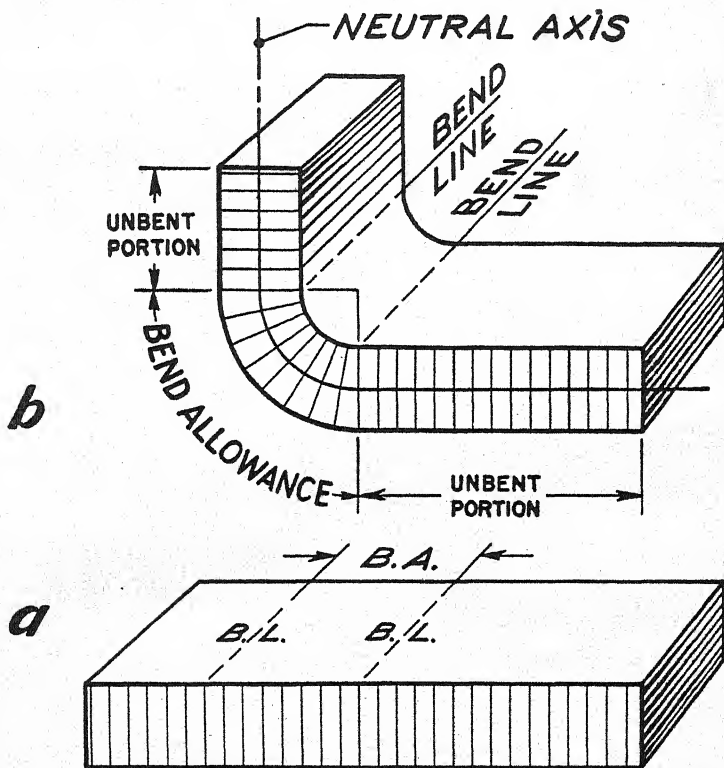

Figure 35.—Neutral axis and bend allowance.
*Select the stock for the job.* This selection will be determined by the job at hand. In chapter 10 you will learn the basic layout procedures you will use to form the desired shapes. The layout for plate sections will be the same as with sheet metal. However, you must bear in mind one important point: When you are working with very thin sections of sheet metal, you won't have to worry about BEND ALLOWANCE. On the heavier sheets (ferrous or nonferrous) or on plates you'll have to keep this factor in mind and make allowances for the thickness of the metal. Figure 35 illustrates the manner in which a thick piece of metal bends. The inner section compresses and the outer radius stretches. You will notice that the portion in the center of the sheet neither compresses nor stretches. This is known as the NEUTRAL AXIS. You will use this neutral axis when making layouts and allowances for bends. Consider it as a paper-thin sheet of metal. As you can see in the illustration, the neutral axis is at the center or one-half the thickness of the sheet. You will allow for the thickness of metal on each side of the axis and make your layout accordingly.